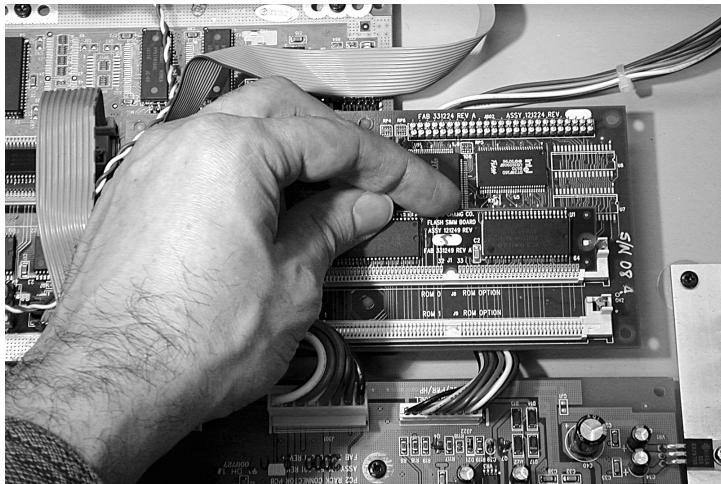

Figure 18 Placing option board in SIMM socket
4. Press straight down on the top edge of the board, as shown in Figure 18, until the locking tabs at each side of the socket snap into place.